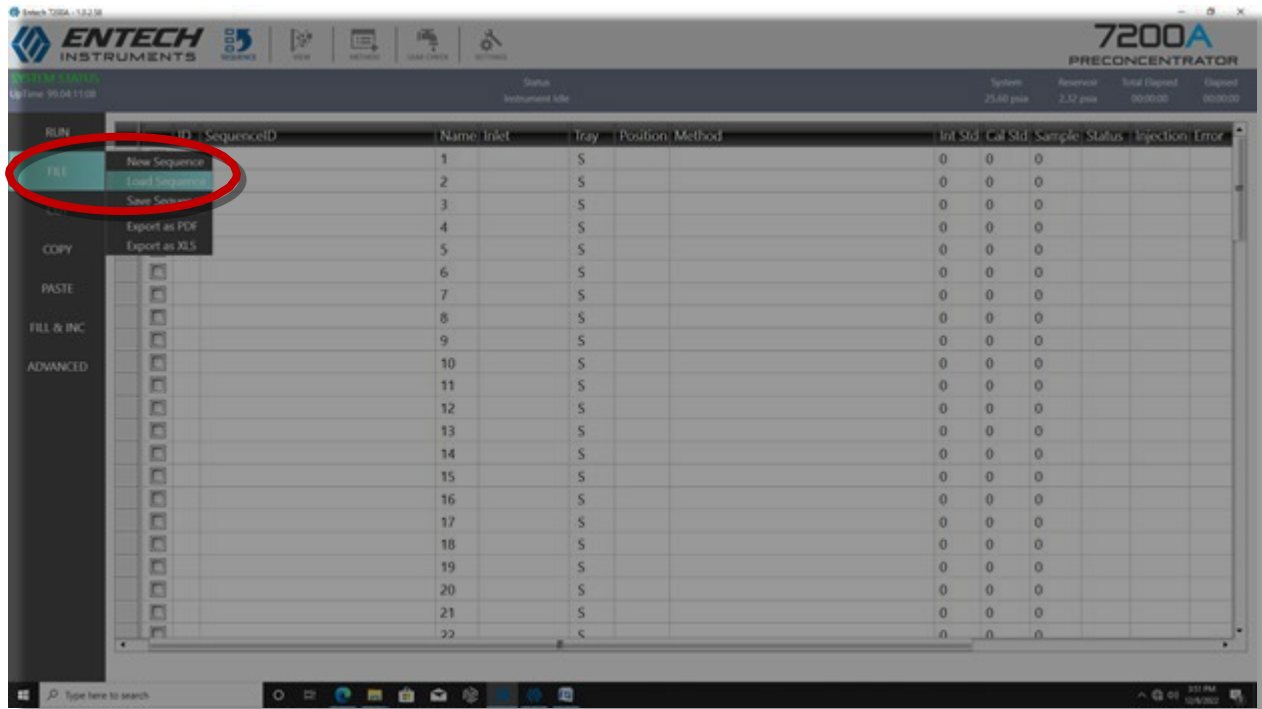

Figure 9. Opening an existing sequence file.
2. When the empty sample list appears on the screen, click **File > Load Sequence** at the upper left side of the screen (Figure 9) and choose a recently dated *.SEQ sequence file to use as a template. As shown in the example sequence table in Figure 10, an analysis sequence is generally set up in the following order: IB(s), CCV, MB, and canister sample runs.